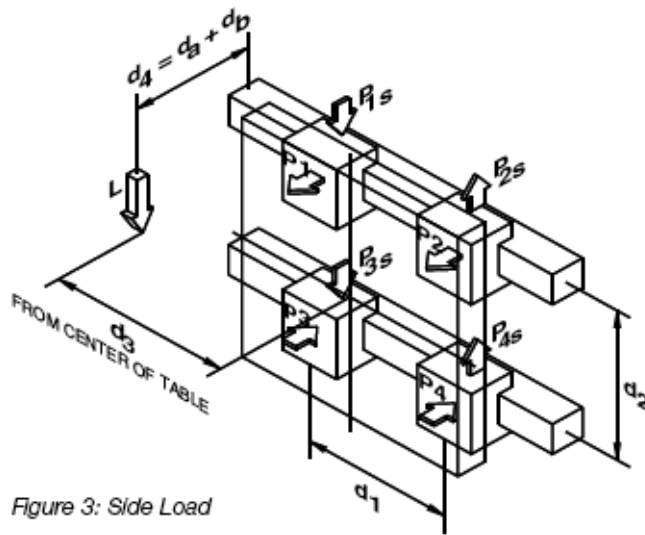

Figure 3: Side Load
Consider a positioner as shown in Figure 3, which involves a lateral (side) load applied to the carriage which translates horizontally. The load vector (L) is shown applied at a point whose coordinate distances from the center of the carriage bearing system are given by dimensions d_3 and d_4 . Note that d_4 is the sum of distance d_a —the distance between bearing and center and carriage surface which is provided for each linear positioner—plus d_b , the distance of the load CG from the mounting surface of the carriage.